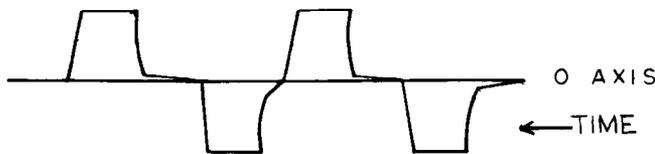

Figure 4
5. Observe the waveform across windings 3 and 4 of L1ST with an oscilloscope and compare with Figure 4.